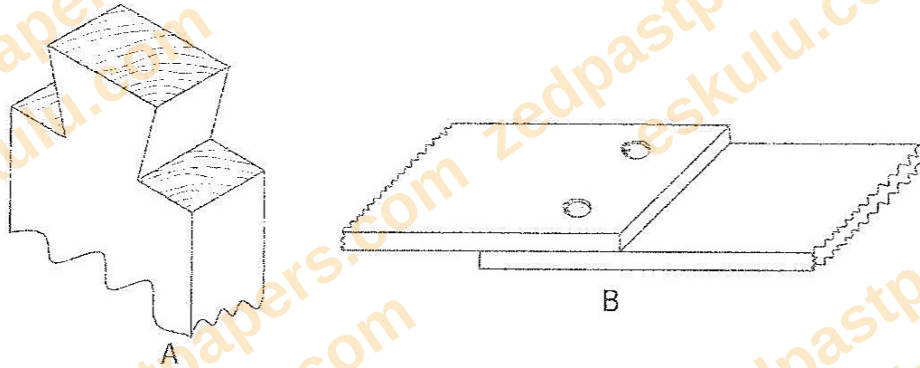

Figure 1
- 1 (a) **Figure 1** shows **two** types of joints a Grade 9 pupil made on two of his artifacts.